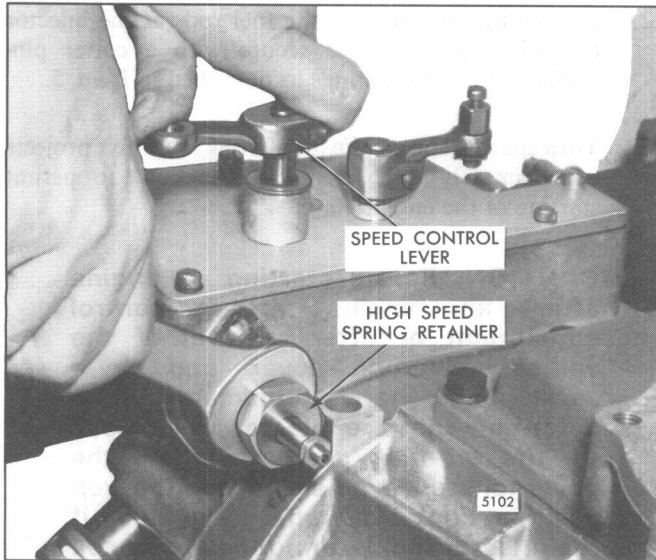

Fig. 14 - Adjusting Maximum No-Load Speed
- Loosen the spring retainer locknut (Fig. 14) and back off the high-speed spring retainer approximately five turns.